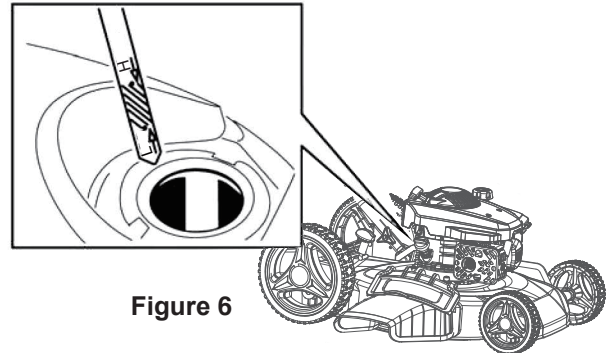

Figure 6
1. Remove dipstick, wipe it clean, and fully re-insert it, check to see if oil is needed by the oil mark that is left the dipstick. (Figure 6)
2. Remove the dipstick and check the oil level (Figure 6) If the oil level is low on the dipstick, slowly pour oil into the oil fill hole to raise the oil level to the full range on the dipstick. Do not overfill. Max 15.8 oz. (0.45L), type: SAE 10w30 oil with an API service rating of SF or higher.